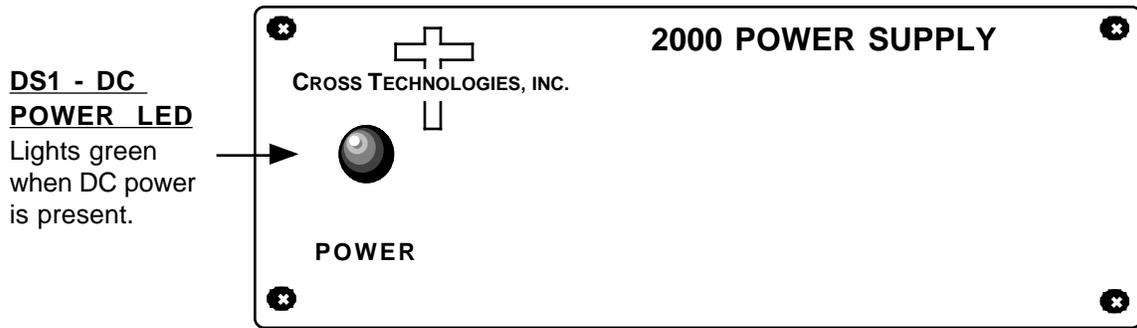

FIGURE 2.2 2000-01 Front Panel Indicator
2.2 **Controls and Indicators** - Figure 2.2 shows the front panel indicator.
- 3.) Be sure DS1 (green, DC Power) is on (Figure 2.2).
- 6.) Apply 100-240 \pm 10% VAC, 43 - 60 Hz to the 2000-01 and be sure DS1 (green, DC Power) is on Figure 2.2.